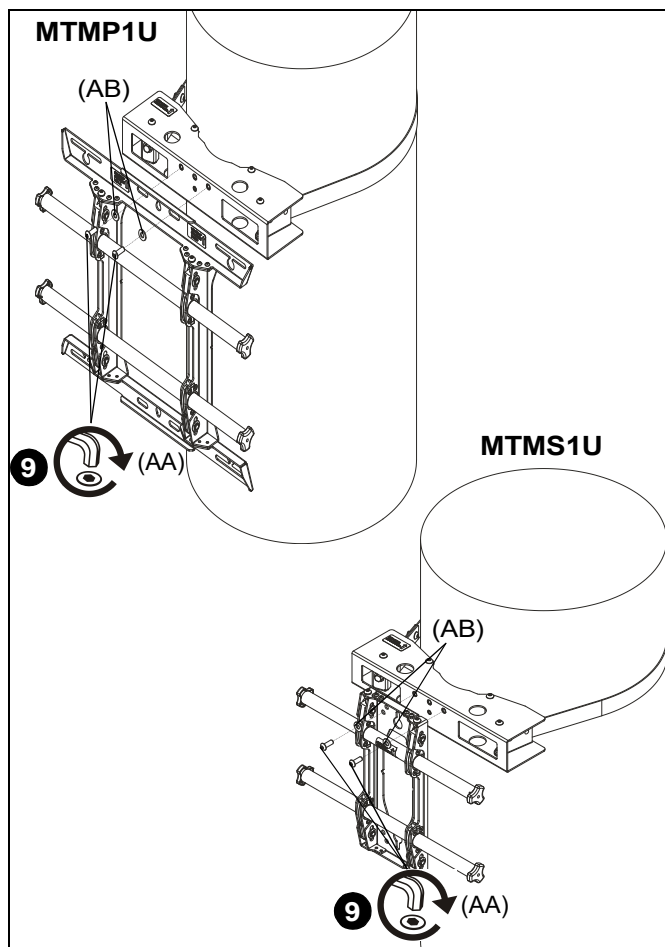

Figure 5
9. Use two 5/16-18 x 7/8" button head cap screws (AA) and two .750x.350x.060 spacers (AB) to secure mount to top column clamp (D). (See Figure 5)